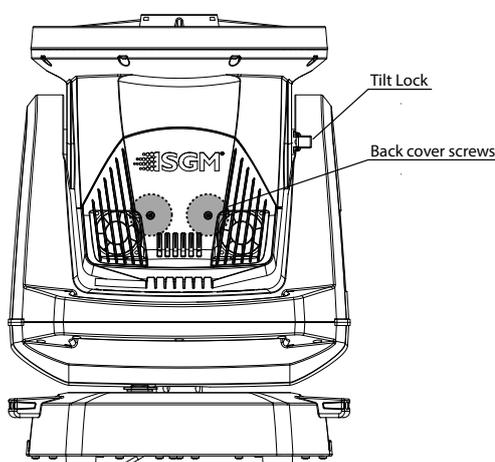

Figure 25: Back cover screws
4. Remove the back cover by loosening its 2 screws (figure 25).